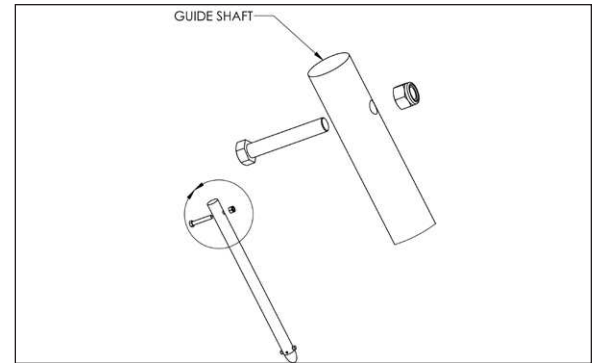

Figure 12. Removing Bolt From Guide Shaft
- 12.** Remove the Standard Guide Shaft Platinum Series 39" [K-MM0512] or Extended Guide Shaft Platinum Series 51" [K-MM0513] from the shipping container and remove the bolt from one end. **See Figure 12.**